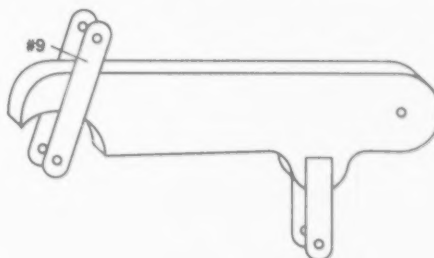

Figure 9 - Position of Shoulder Hinge
21. Glue shoulder hinge (#9) in position on the upper arm as done in the robot picture and shown in Figure 9. Follow the steps used in step 19.